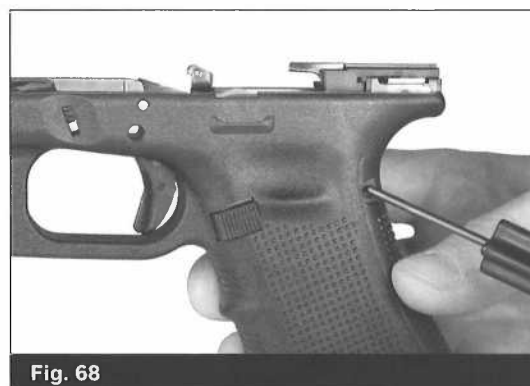

Fig. 68
- Using the punch, press on the left side of the trigger mechanism housing pin and remove it from the frame. (Fig. 68)